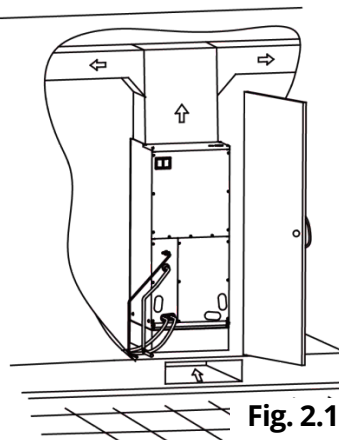

Fig. 2.1
- ⊗ **DO NOT install the air handler in enclosed areas, such as garages, utility rooms or parking areas. Carbon monoxide producing devices (such as an automobile, space heater, gas water heater, etc.) should not be operated in enclosed areas such as unventilated garages, utility rooms, or parking areas because of the danger of carbon monoxide (CO) poisoning resulting from exhaust emissions. If a furnace or air handler is installed in an enclosed area such as a garage, utility room, or parking area, and a carbon monoxide producing device is operated therein, there must be direct ventilation to the outside. Adequate ventilation is necessary to avoid the danger of CO poisoning which can occur if a carbon monoxide producing device continues to operate in an enclosed area. If these warnings are not followed, carbon monoxide emission can be (re)circulated throughout the building from the air handler causing serious illness including permanent brain damage or death.**
- If air handler is installed as shown in Fig. 2.1, the air handler should be concealed in a specific room or space and make sure the air handler is not accessible to the general public.